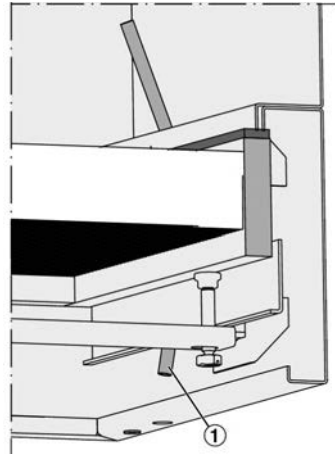

Fig. 8: Measuring tube
- Plus (+) - to the internal measuring tube (Fig. 8/1)